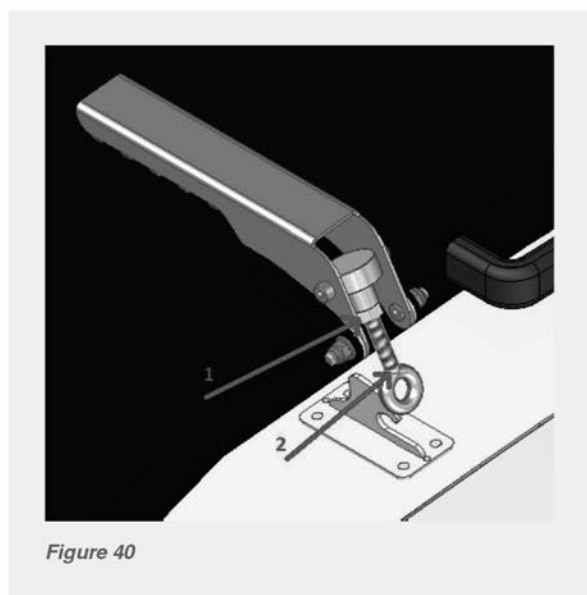

Figure 40
To adjust the fastener, you only have to loosen the lock nut (1), and then screw in the ring bolt (2) a little (see Figure 40). Then tighten the lock nut again, ensuring that the ring bolt is in the correct position. Make sure that the two fasteners are tensioned evenly, i.e., that the two ring bolts are screwed in to the same depth in the turning part of the fastener.